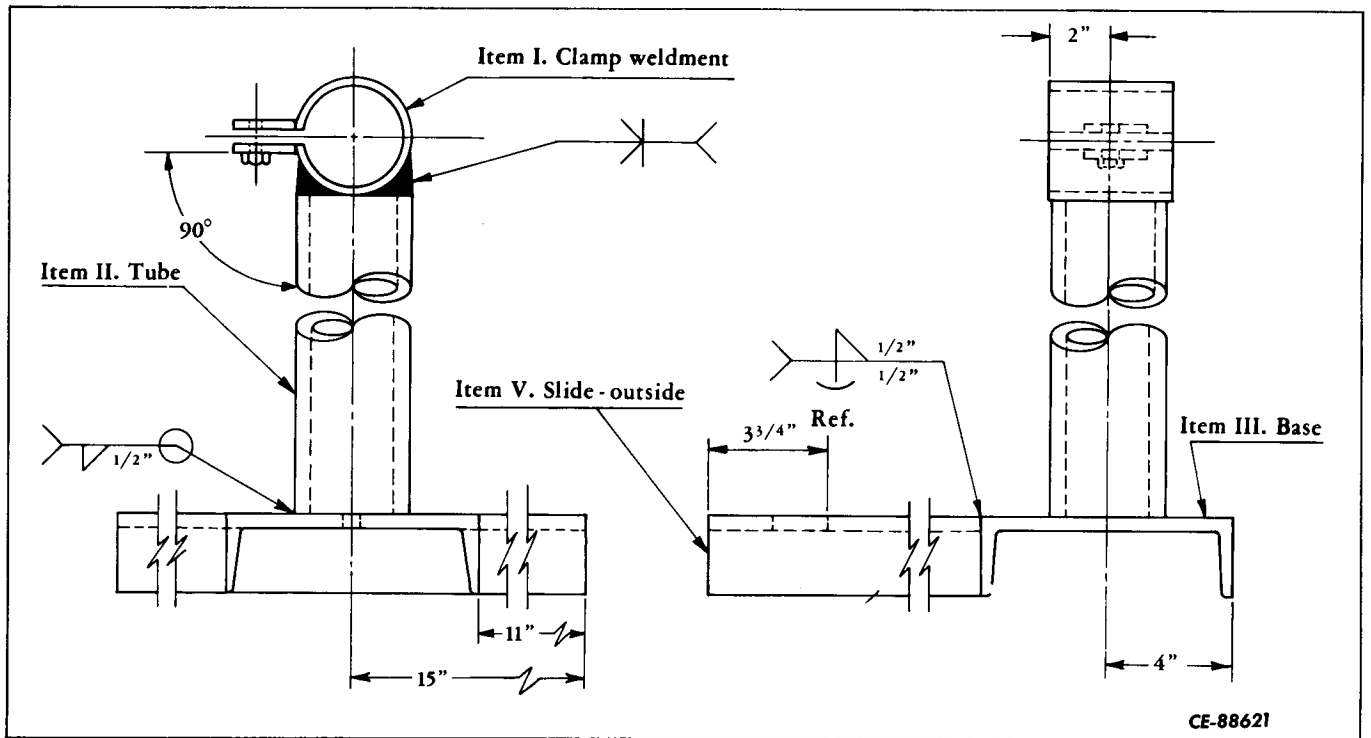

Figure 6-77
- C. Stand weldment - right hand (Fig. 6-77).